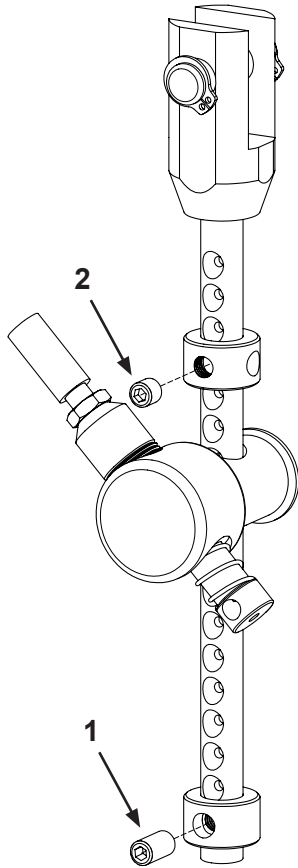

Figure 2
The upper stop ring mounted in the 4th hole from above, see Figure 2.
The lower stop ring mounted in the first hole from the bottom, see Figure 2. Note that a longer set screw is used for this mode compared to the others and that the unthreaded hole in the stop ring is used. See below!
- In the bottom threaded hole on the tilt bar: Mount the stop ring with a set screw M6x12 (1, see Figure 2), through the unthreaded hole in the stop ring.